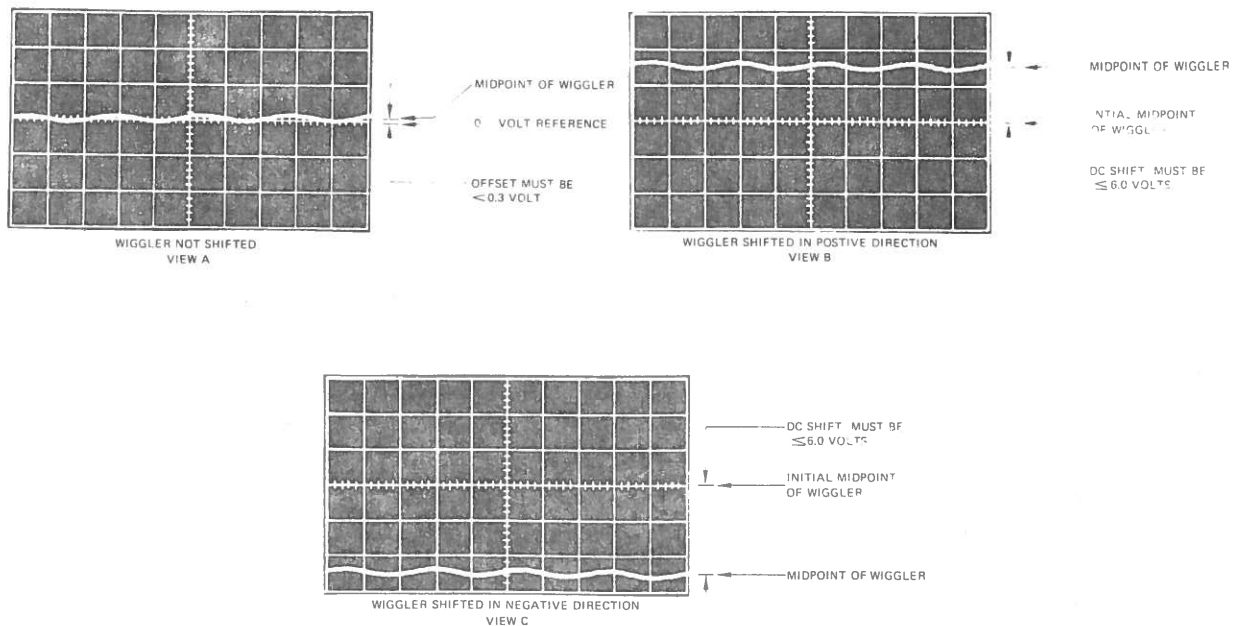

Figure 6-22. Temperature Compensation Effect on Added 1 and 2 Signal
- k. Set INPUT switches to DC (waveform should appear like figure 6-22, view A).
3. Connect jumper between 1820 (+ 12 volts) and 1818 (TP). Waveform should be positioned approximately 6 volts above center graticule, figure 6-22, view B).
6. Connect jumper between 1802 (ground) and 1824. Waveform must return to 0-volt reference (figure 6-22, view A).
8. Remove end of jumper connected to 1820 (+ 12 volts) and connect to 1840 (-12 volts). Waveform should be positioned approximately 6 volts below center graticule (figure 6-22, view C).